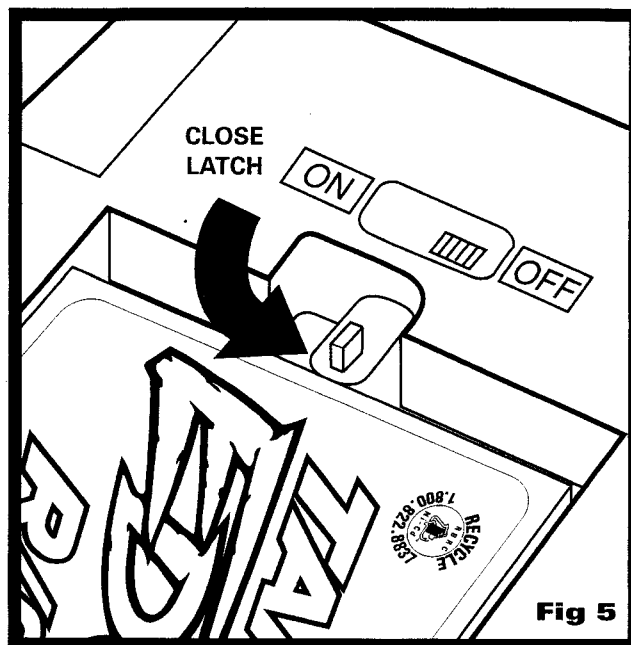

Fig 5
- Turn LATCH all the way to CLOSED position to secure BATTERY PACK inside BATTERY OPENING. (Fig. 5)